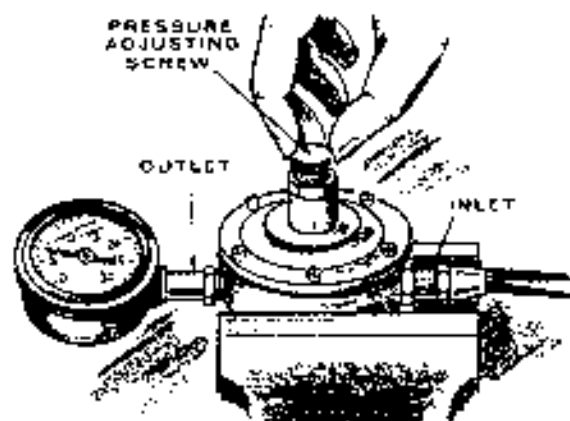

FIGURE 8-11. VAPORIZER ADJUSTMENT
1. Place vaporizer in a vise or another suitable clamp. Attach an air hose from an air supply of 75 psi to inlet, Figure 8-11.